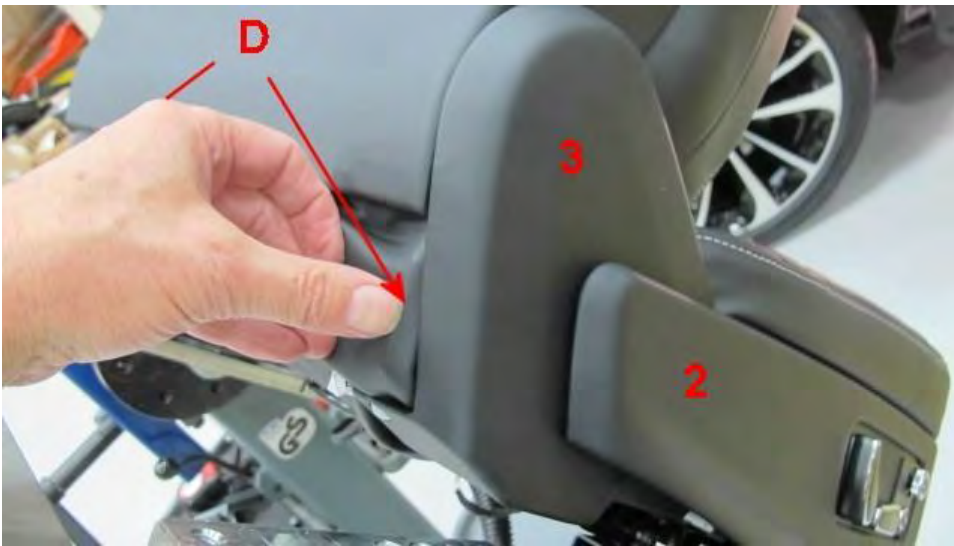

Figure 53
6. Remove rear seat side valance (2) (see Figure 53). Refer to Rear seat valance – To remove and fit Rep.Gr.72
7. Remove rear seat side valance (rear) (3) To access outboard ISO bar fastener (D) (see Figure 53). Refer to Rear seat valance – To remove and fit Rep.Gr.72